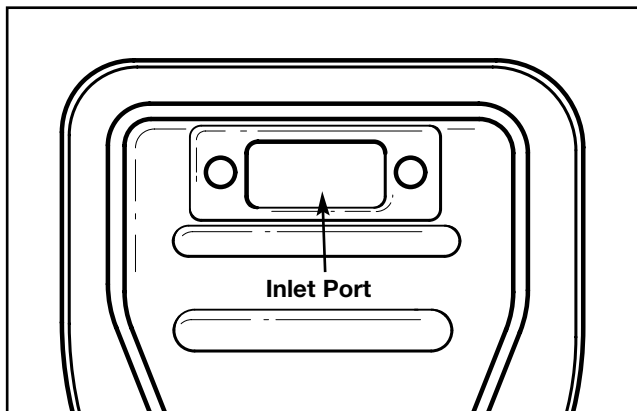

Fig. 36
1. Check the inlet port of the muffler and outlet port of the cylinder for excessive carbon deposits (Fig. 36). Clean as required.